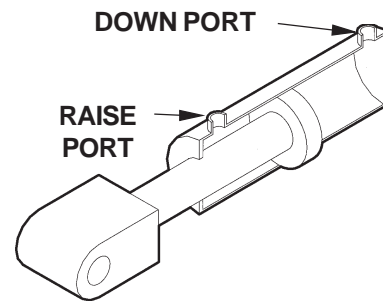

FIG. 5
4. Check the Hydraulic Cylinder. With the Platform on the ground, remove the Breather Plug or Vent Line from the Vent Port of the Cylinder (**FIG. 5**). Raise the Platform even with the bed. Allow pump motor to run two seconds more while you watch for hydraulic fluid at the Vent Port. A few drops of hydraulic fluid escaping the Vent Port is normal; however, if it streams from the Vent Port, Piston Seals are worn. Replace Seals.
5. Check the Hydraulic Cylinder. With the Platform on the ground, remove the hydraulic line from the Down Port of the Cylinder (**FIG. 5**). Raise the Platform even with the bed. Allow pump motor to run two seconds more while you watch for hydraulic fluid at the Down Port. A few drops of hydraulic fluid escaping the Down Port is normal; however, if it streams from the Down Port, Piston Seals are worn. Replace Seals.